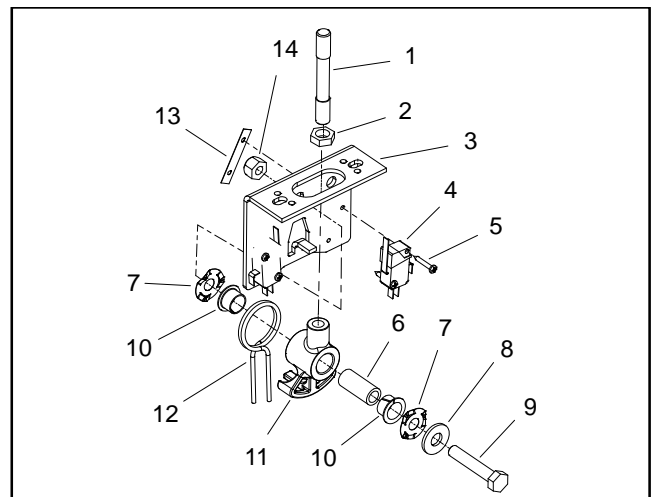

Figure 15
5. Disassemble joystick assembly as needed using Figure 15 as a guide.
2. If joystick assembly was disassembled, assemble joystick using Figure 15 as a guide. If finger spring washers (item 7 in Fig. 15) were removed, position washers so that fingers on washer point towards pivot hub.